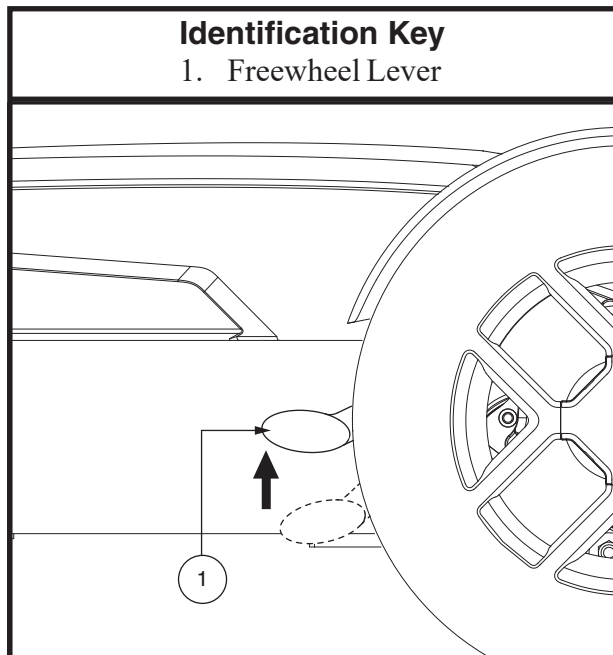

Figure 5. Drive Mode (Drive Engaged)
2. Pull both levers upward to engage the drive motors (drive mode). See figure 5.
2. Ensure the power chair is in drive mode. See figure 5.